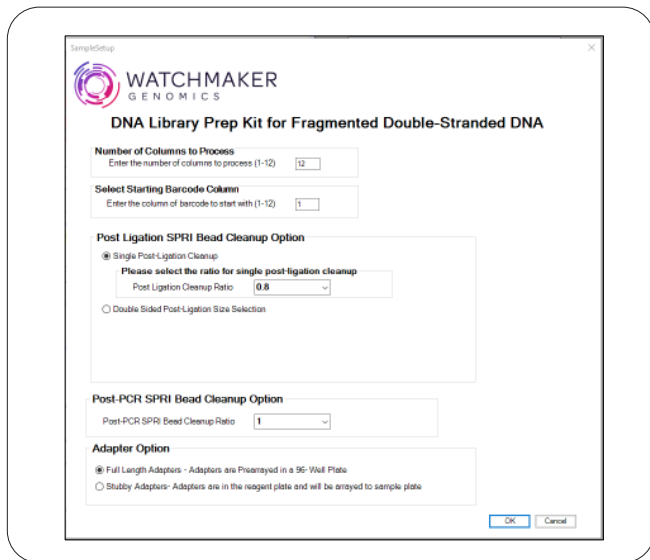

Figure 4. Flexible user interface including options for sample throughput, bead cleanups and adapter types presented at the start of the run.
- Flexible User Interface:** Supports 1 - 96 sample processing, stubby vs. full-length adapters, dynamic bead cleanup ratios, and single-sided or double-sided post-ligation cleanup options (Figure 4)